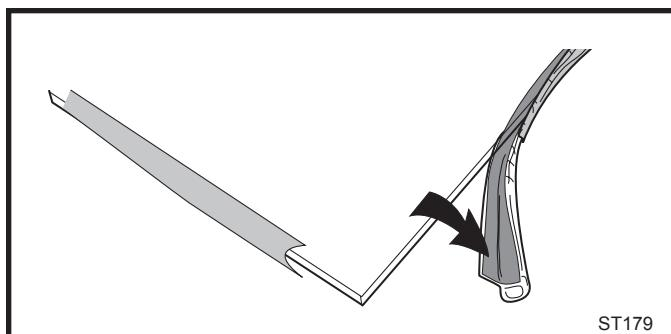

Fig. 85 Wrap the gasket material around the outside edge of the glass.
3. Starting on a long edge, remove about 6" of the protective paper strip and apply the flat adhesive face of the gasket around the outside-facing edge of the panel. Continue around the panel, applying about 6" at a time and being careful to not stretch the material. Do not overlap the gasket ends. (Fig. 85)